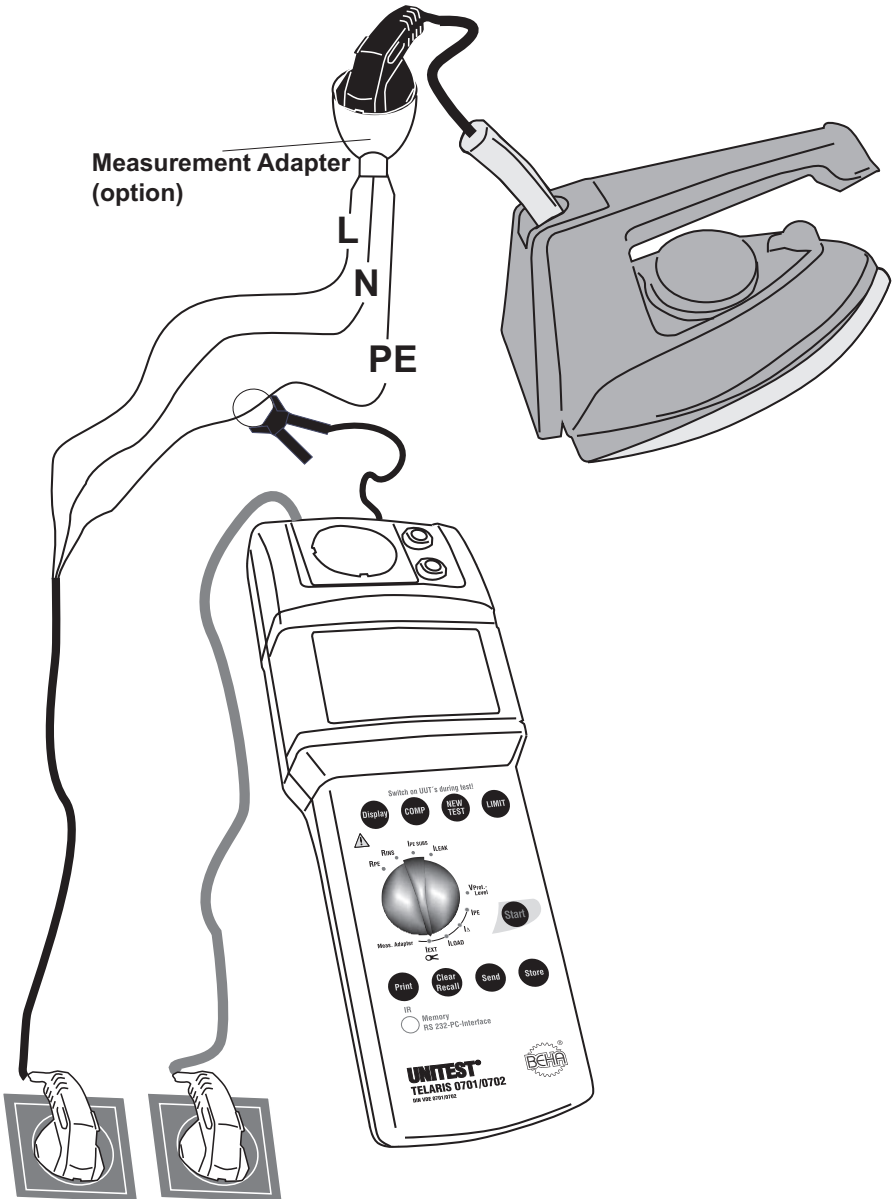

Figure 6.17: Measuring the PE current using a current clamp adapter
- ▶ Connect the UNITEST TELARIS 0701/0702 via the mains plug (1) to a functional and correct wired and grounded mains socket.
- ▶ Connect the Schuko Measurement Adapter to the measurement adapter connector (18) of the UNITEST TELARIS 0701/0702.
- ▶ Turn the ‘Measurement function’ selection switch (15) to position ‘IEXT’.
- ▶ To perform the measurement, surround the PE resistance of the UUT with the current clamp adapter, please refer to Figure 6.17.
- ▶ Press the key “Start” (9). The unit symbol which is blinking on the display is an indication for the active measurement procedure.
- ▶ Read the measurement value from the LC display (6).
- ▶ Read the second value from the LC display. (16). The higher measurement value of both measurement values has to be considered and recorded.
-  The measurement results can be saved by pressing the key “Store” (10). For references regarding the saving of measurement values, please refer to section 7.1 and 7.2.